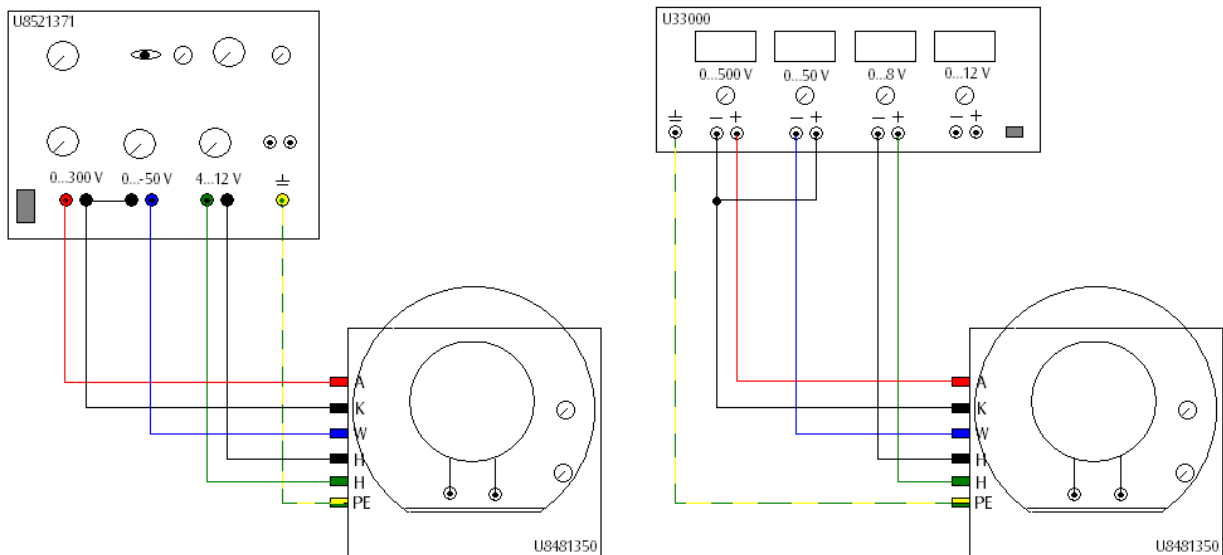

Fig.2 Electrical deflection of the electron beam (left: with power supply U8521371, right: with power supply U33000)
- Set up the experiment as in fig. 2.